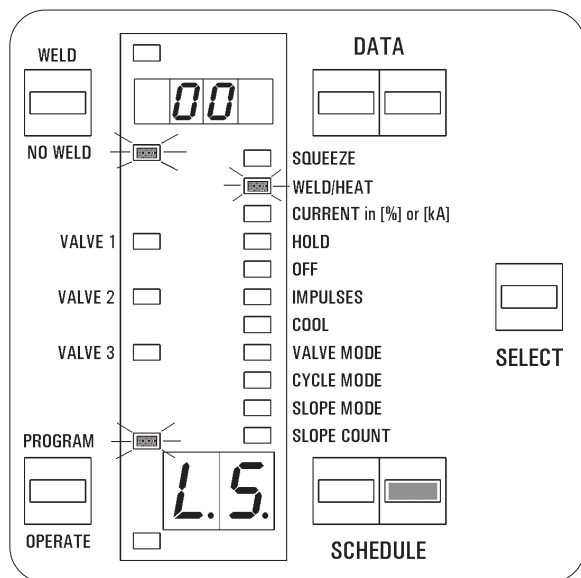

Figure 7-4. Program LAST STEP
3. Press the SCHEDULE push buttons to find **1.5** in the SCHEDULE display, as shown in Figure 7-4.
4. Program the desired LAST STEP for this stepper; e.g., for stepper **A**, LAST STEP in STEPPER mode **01** may be any number from **00** to **09** (see Figure 7-4); but in STEPPER mode **02**, it may be any schedule number from **00** to **49**. In fact, this value will be first step at beginning of the weld sequence. This value will be reset or reprogrammed after resetting the stepper.